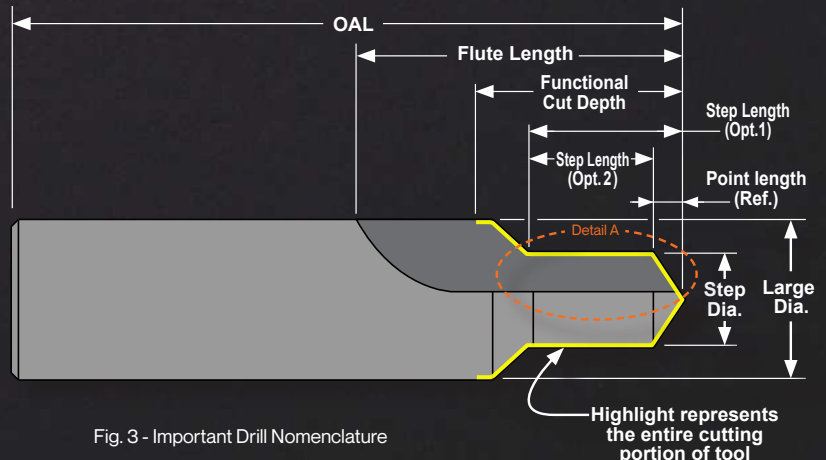

Fig. 3 - Important Drill Nomenclature
**Some Important Measurements** - Since we produce a large number of step drills for our clients, we felt it would be prudent to address several crucial issues related to our tools and drilling in general. Let's start by discussing the metrics and how they vary from end mills measurements (Fig.3).
• **Cutting Depth** - The length of the cut and the functional cut depth are usually considered to be equal. This is the area that the tool is cutting, and it is properly marked (Yellow in this example, bold on our prints (similar to Fig. 3). The tool has a designed cutting edge. We ask that you specify exactly what dimensions, angles, and edges you intend to be cutting on any unique tool quote requests you make.